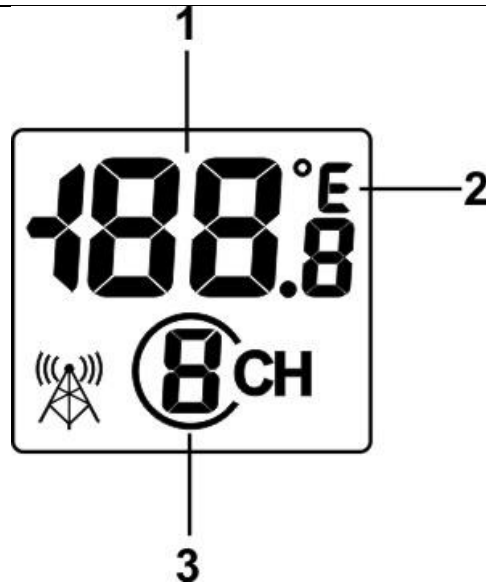

Figure 3
6. Verify the correct channel number (CH 1) and temperature units of measure (°F vs. °C) are on the display, as shown in Figure 3.